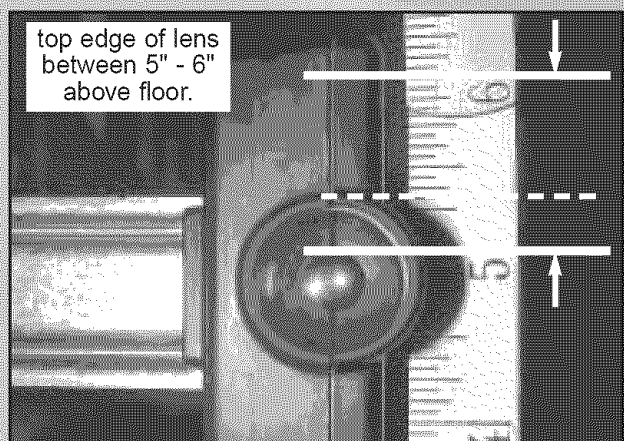

Fig. 3-9
- Ensure that tops of lenses are between 5"-6" above the floor **Fig. 3-9**. The brackets are flexible, and can be adjusted slightly if needed.